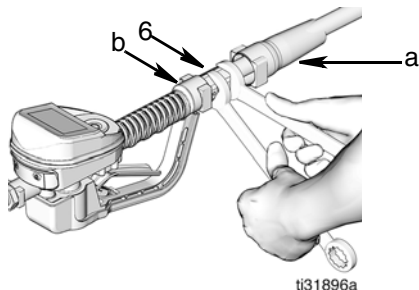

FIG. 12
2. Slide the swivel boot (a) back, over the hose, to access the swivel fitting (6) (FIG. 12). Using two wrenches working in opposite directions, disconnect swivel fitting (6) from hose fitting (b)(FIG. 12).